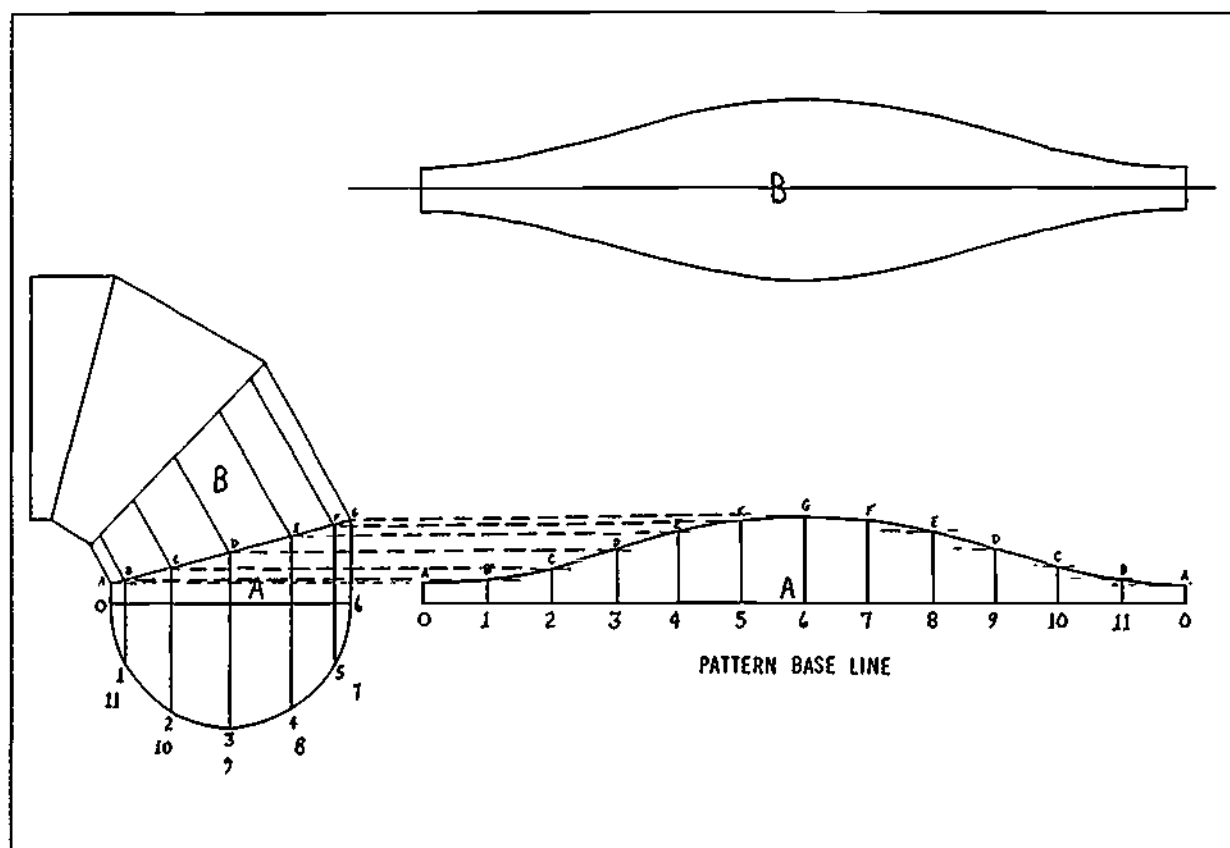

Figure 5-30. Four Piece 90° Elbow
**Four Piece 90° Elbow** To develop the pattern, draw the elevation full size using the neutral diameter of the elbow, and construct a 1/2 plan on the base line as shown in Figure 5-30.
- Step 2. To lay out the pattern, draw the pattern base line 0-0 equal in length to the calculated circumference of the elbow. Divide the base line into 12 equal divisions and number as illustrated in Figure 5-30. Square the lines upward from the pattern base line.